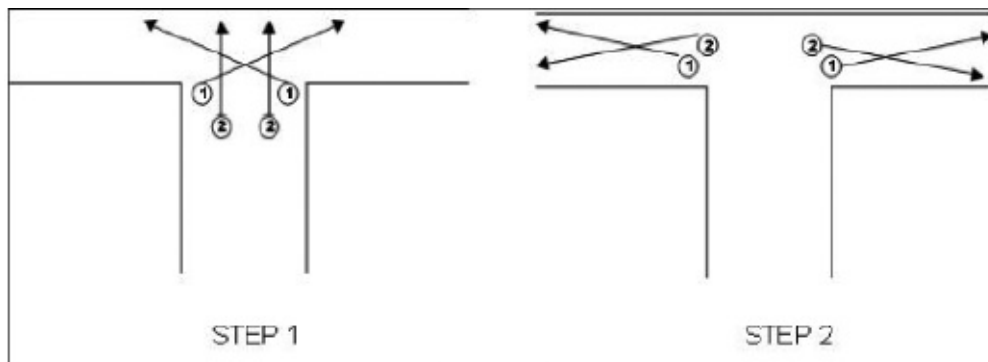
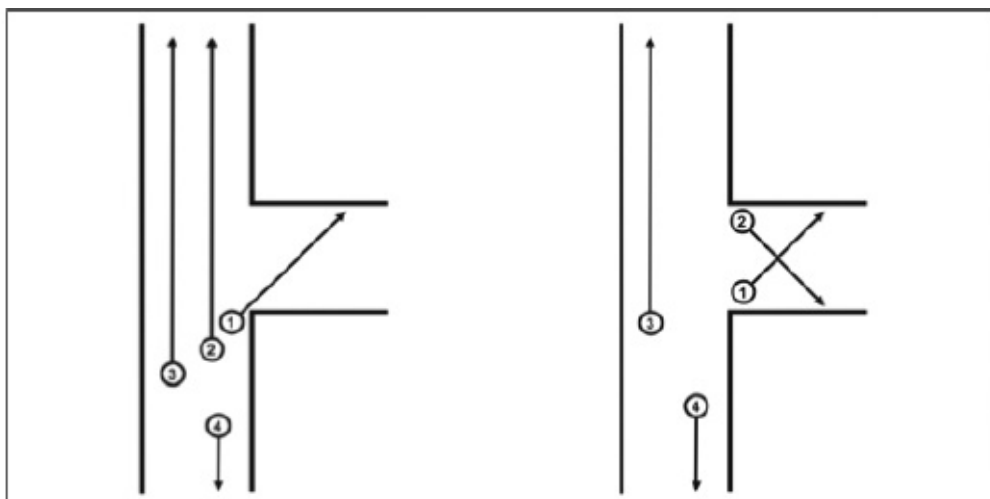

Figure 4-19. T-Shaped intersection
Figure 4-20. Dynamic corner
e. **T-Shaped Intersection.** See Figure 4-19. This technique can incorporate the dynamic corner clear (Figure 4-20).
f. **Dynamic Corner.** (See Figure 4-20.)